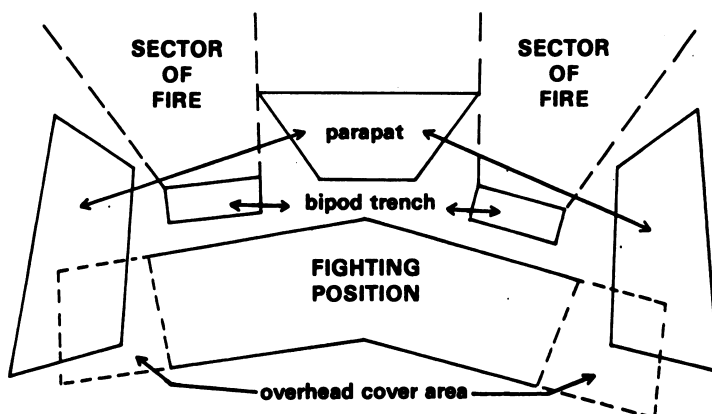

Figure 1
1. Like any other weapon organic to the platoon, the Dragon and 90mm recoilless rifle can be employed from hasty or improved positions. A fighting position is a firing position sited and oriented to cover a sector of fire and constructed to accommodate the weapons system and its firer. See figure 1 for an example of a Dragon fighting position.